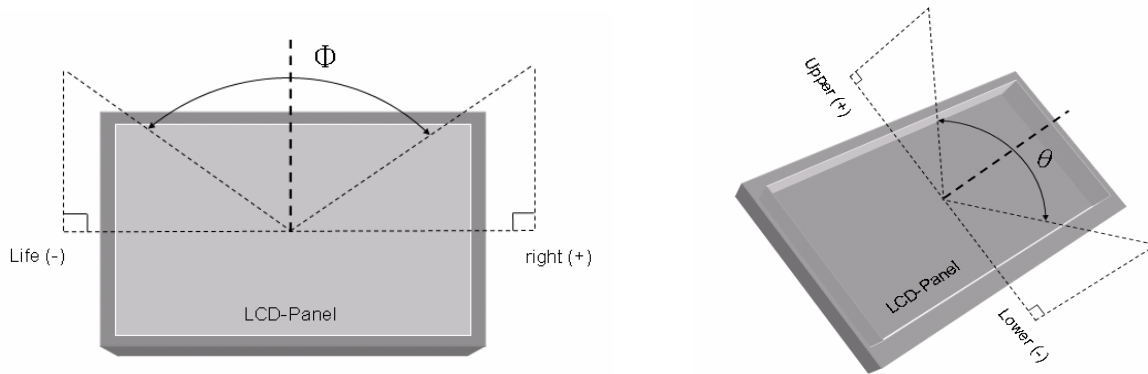

Fig9-2 Definition of Viewing Angle
*4) Definition of Viewing Angle(θ, ψ), refer to Fig9-2 as below :